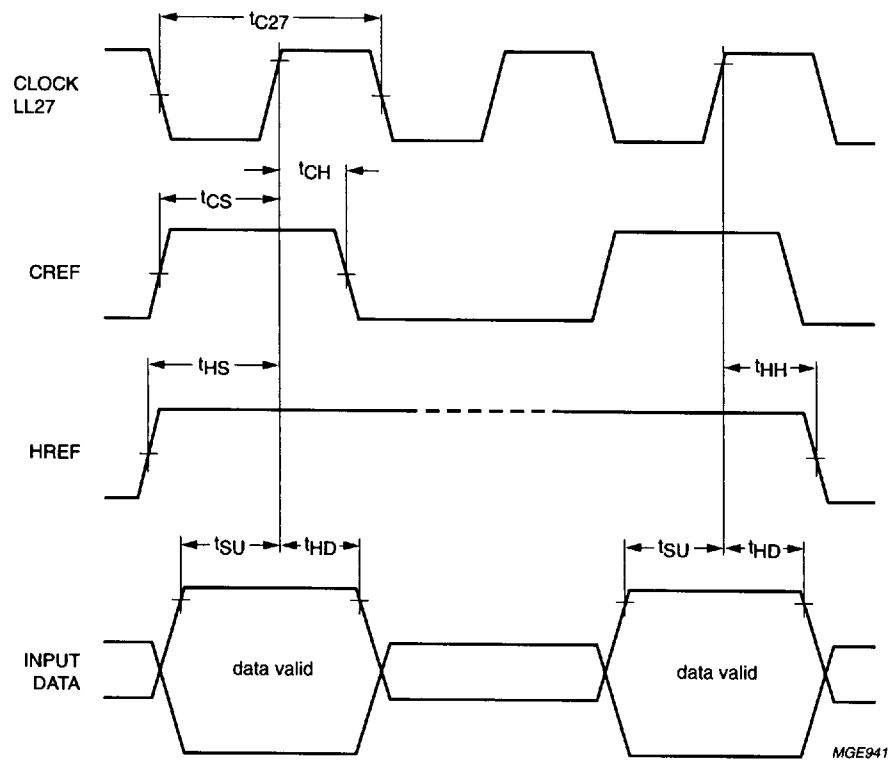

Fig.22 Timing diagram input (DMSD mode).
1. DMSD mode designates that the DCSC will work in a DMSD environment. The CLOCK and the clock reference signal CREF will be fed by the SCGC (SAA7157); see Figs 22 to 24.